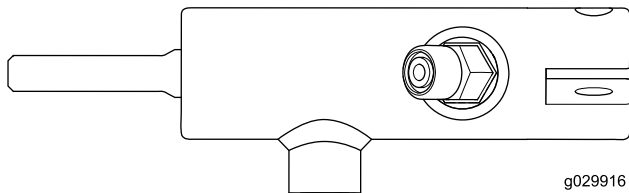

Figure 3
3. Aim the open end of the fitting along the axis of the cylinder body (Figure 3).